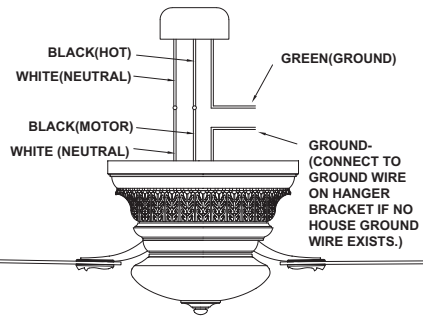

Fig.5
Step 2. If your outlet has a ground wire (Green or Bare Copper) connect the fan and mounting bracket ground wires to it, otherwise, connect the fan ground wire directly to the mounting bracket ground wire. (Fig. 5)